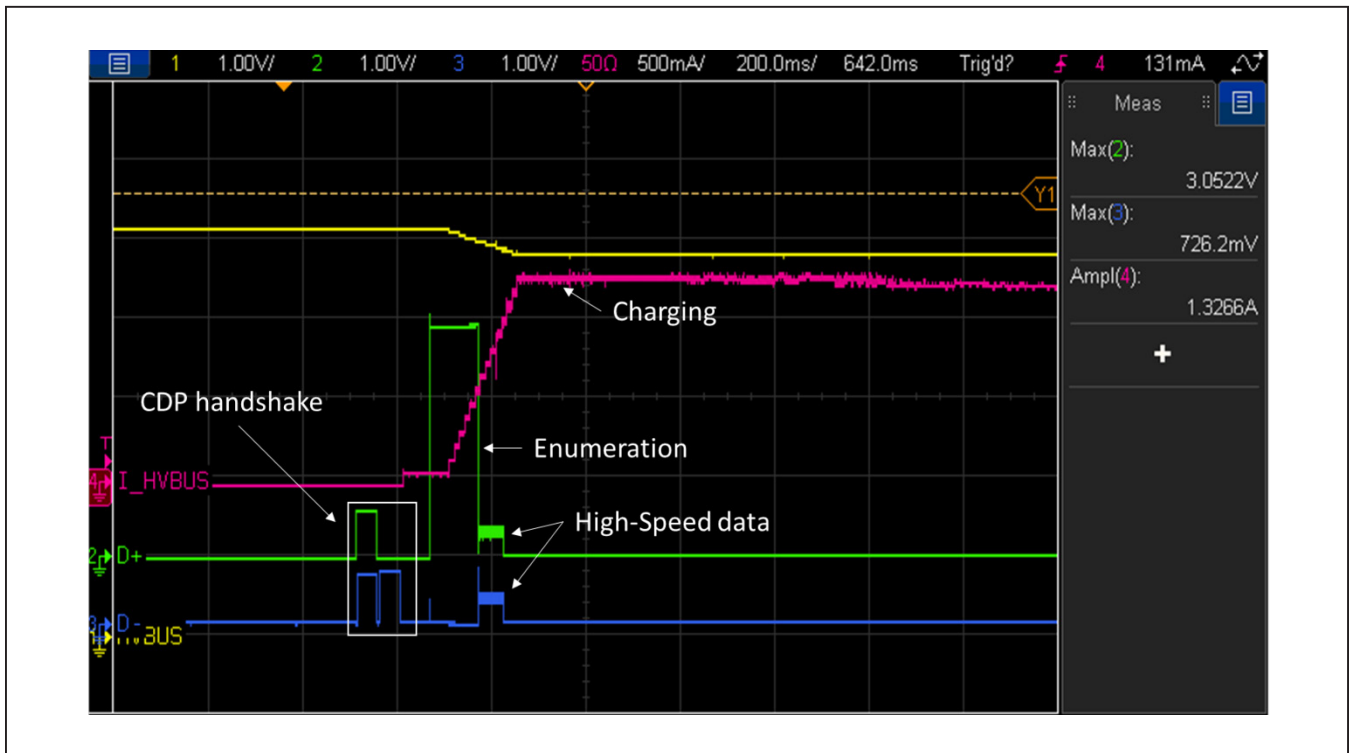

Figure 6. Auto-CDP Response
- 3) Note the CDP handshake on the HVDP and HVDM pins, which indicates to the phone that it may pull up to 1.5A of load and can enter USB high-speed data transfer after enumeration (see Figure 6).